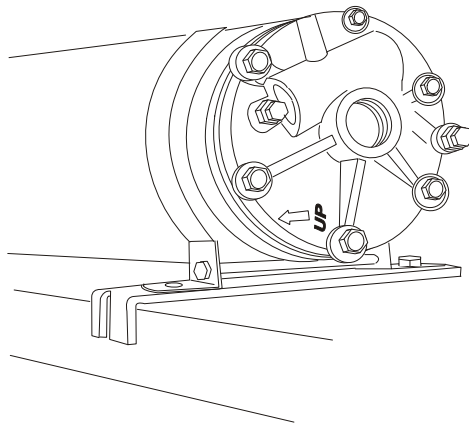

Figure 4.2
- Rotate the tank so that the directional arrow on the end of the tank is parallel to the work bench and faces toward you (Figure 4.2).